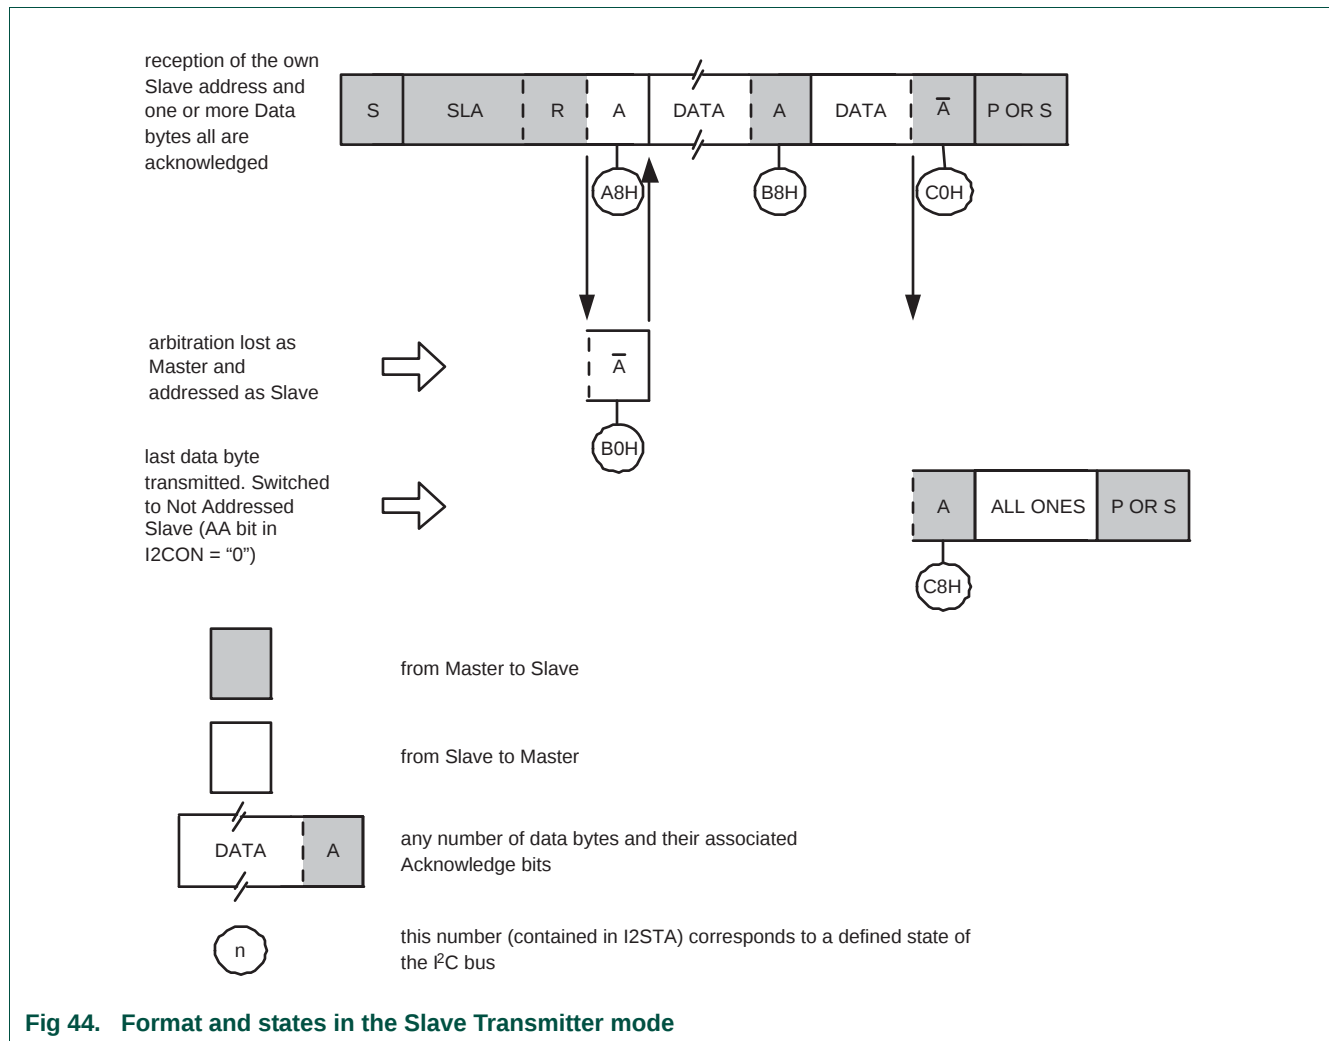

Fig 44. Format and states in the Slave Transmitter mode
In the slave transmitter mode, a number of data bytes are transmitted to a master receiver (see Figure 44). Data transfer is initialized as in the slave receiver mode. When ADR and CON have been initialized, the I²C block waits until it is addressed by its own slave address followed by the data direction bit which must be “1” (R) for the I²C block to operate in the slave transmitter mode. After its own slave address and the R bit have been received, the serial interrupt flag (SI) is set and a valid status code can be read from STAT. This status code is used to vector to a state service routine, and the appropriate action to be taken for each of these status codes is detailed in Table 226. The slave transmitter mode may also be entered if arbitration is lost while the I²C block is in the master mode (see state 0xB0).